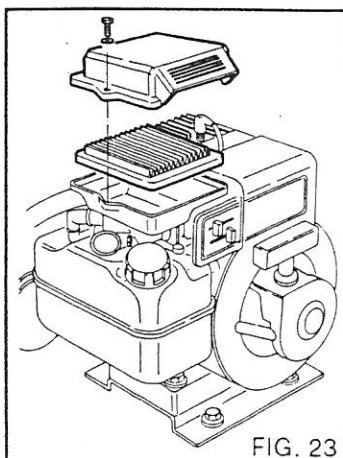

FIG. 23
1) Unscrew the butterfly nut, remove the air filter cover and take out the filtering element (fig. 23).